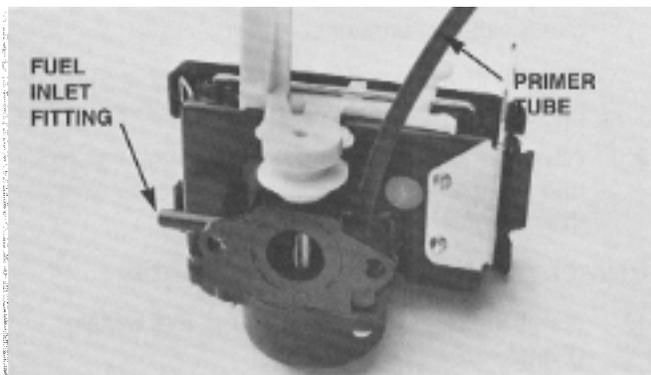

Figure 32
5. Disconnect the fuel line and the primer tube from the carburetor fittings (**Figure 32**).